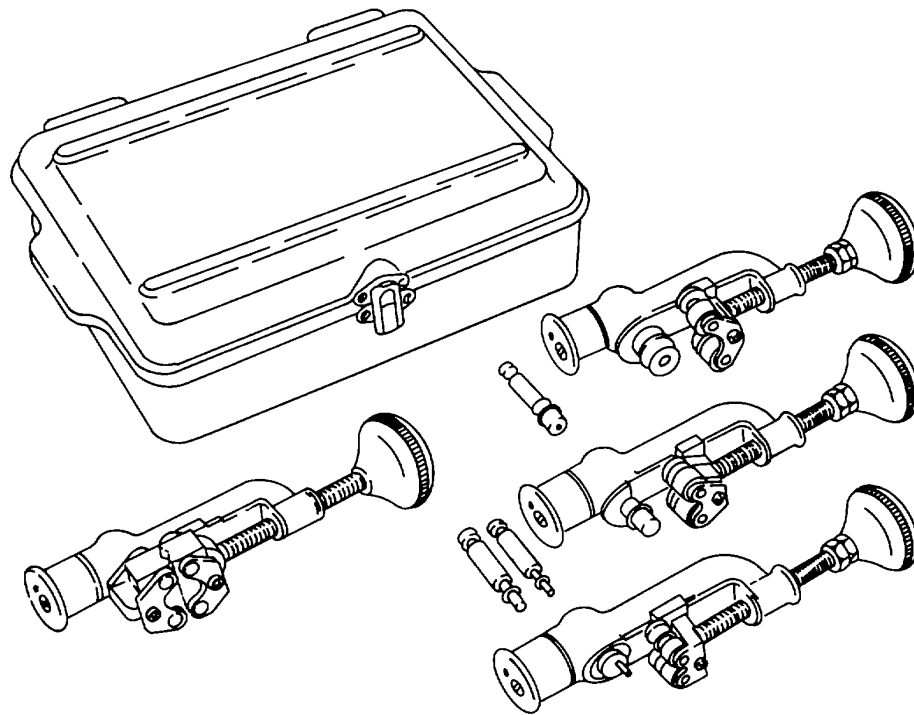

Figure 4-123. Tube Beading Tool
(1) Keep surfaces clean and lightly oiled.
(2) Close single-flaring tools and tighten the cone into the die block for storage.
(3) Keep double-flaring tools in their cases when not in use.
**4-26. Tube Beading Tool.** Tube is beaded when it will be joined with flexible hose. The beading provides a sealing surface against which the hose is pressed. Beading may be accomplished on machine bead-ers, or with the hand-beading tool. The hand-beading tool is the most common beading tool used in the maintenance of Army aircraft. A typical hand-beading tool set is shown in figure 4-123.